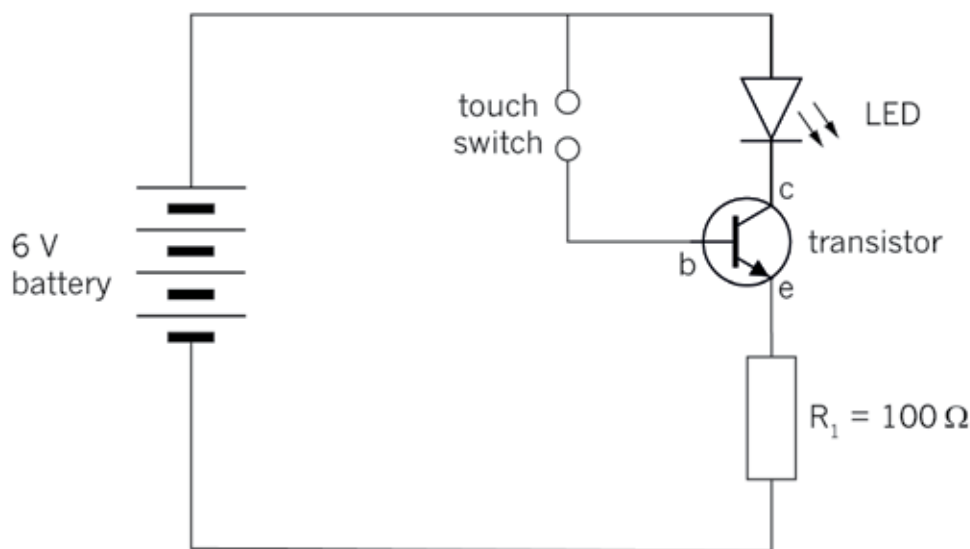

Figure 18: Circuit using a transistor as an electronic switch
Figure 18 shows a circuit that uses a transistor for this purpose. In this circuit, the touch switch is an "input device," the *n*pn transistor is a "control device," and the LED is the "output device".
1. The photograph below shows a circuit built according to the circuit diagram in Figure 18. Look at the photograph and identify each component in the circuit. Write labels for the different components and draw arrows pointing from the labels to the components.